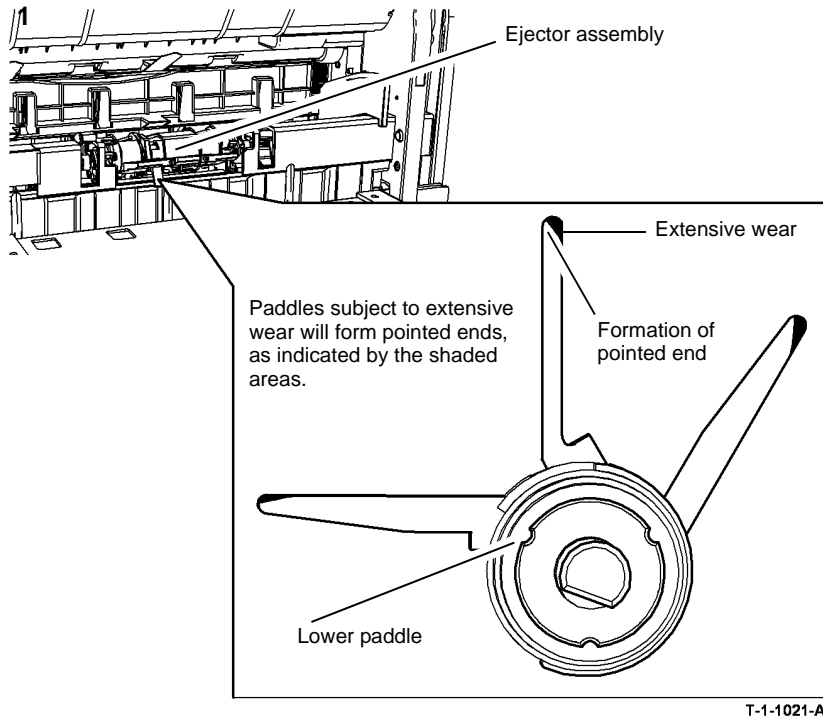

Figure 8 Lower paddle
1. Figure 8. Check the lower paddle for wear.